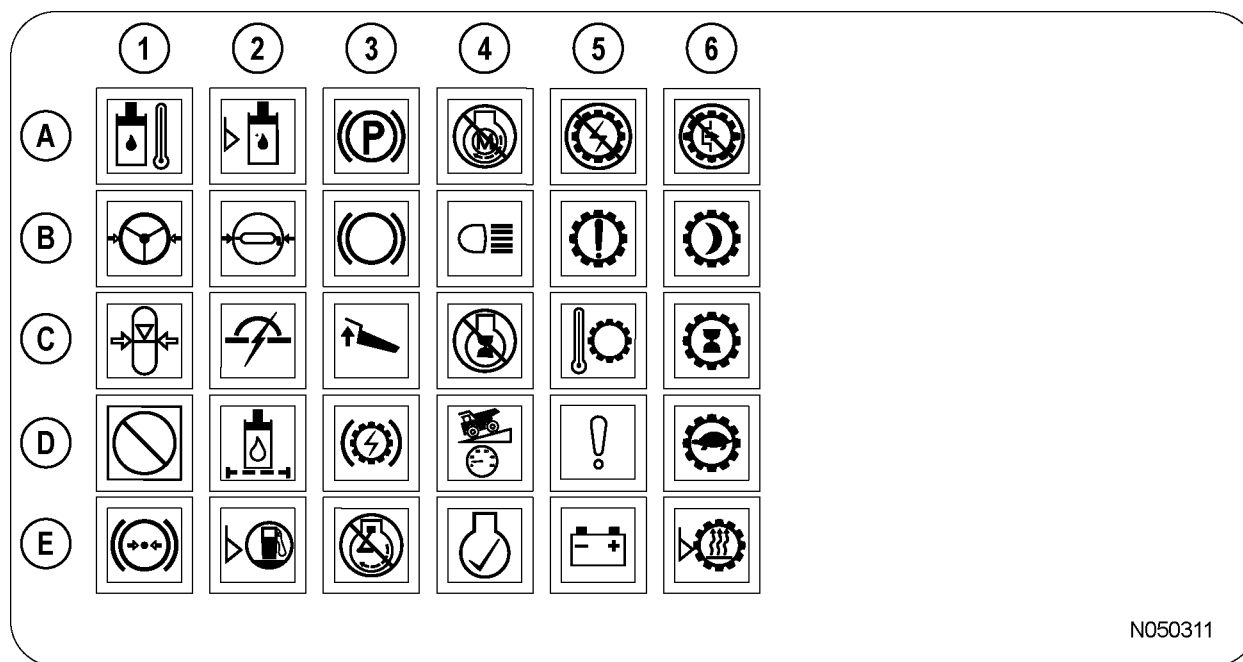

FIGURE 32-8. OVERHEAD STATUS / WARNING INDICATOR
Amber indicator light (B6, Figure 32-8) in the overhead panel will illuminate when the rest mode is activated.
**NOTE:** Do not use the lamp check switch while the engine is on. Pressing this switch while the engine is on will cause false electrical system faults. Warning light (D5, Figure 32-8) will illuminate and engine shutdown is required to turn it off.
Backup light switch (18, Figure 32-7) allows the backup lights to be turned on for added visibility and safety when the directional control lever is not in the REVERSE position. When the switch is in the ON position, the backup light indicator (B4, Figure 32-8) in the overhead panel will be illuminated.
Red indicates high oil temperature. Continued operation could damage components in the hydraulic system. Warning lights (A1) and (E1, Figure 32-8) in the overhead panel will illuminate when the temperature exceeds a certain level (when the needle enters the red zone). If this occurs, the operator should safely stop the truck, move directional control lever to PARK and operate the engine at 1200 - 1500 rpm to reduce system temperature.
Refer to Figure 32-8 and the descriptions below for explanations of the symbols. Location of the symbols is described by rows (A - E) and columns (1 - 6).